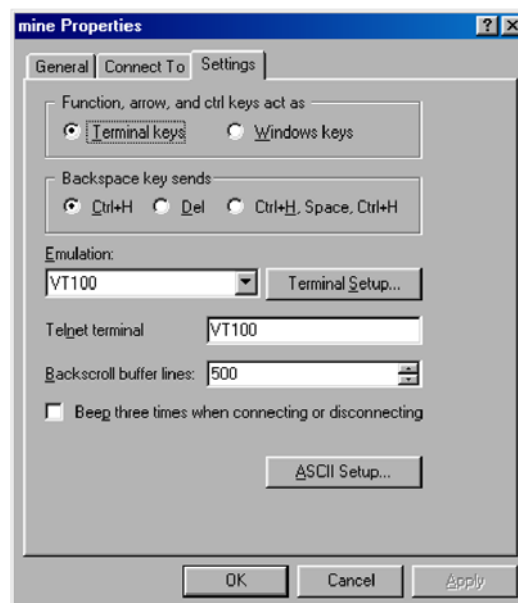

Figure 24. Terminal keys configuration
- Configure the settings for *Function, arrow and ctrl keys act as to Terminal keys* as shown in figure 24, then click **OK**.